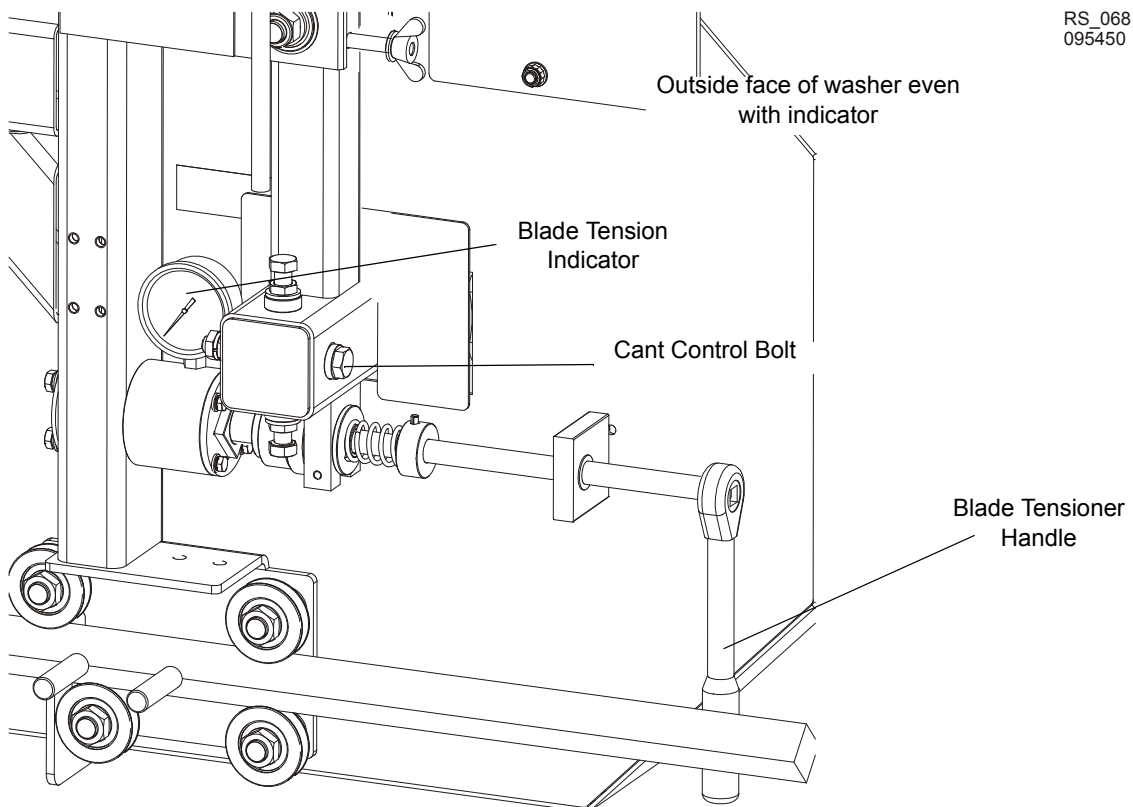

FIG. 2-3
See Figure 2-3. Turn the blade tension handle clockwise until the tension gauge indicates the recommended tension. Check the blade tension occasionally when adjusting the cant control or while cutting and adjust if necessary. As the blade and belts heat up and stretch, the blade tension will change. Also, ambient temperature changes can cause tension to change.
5. Use the cant adjustment bolt, shown in **Figure 2-3**, to adjust where the blade travels on the blade wheels.